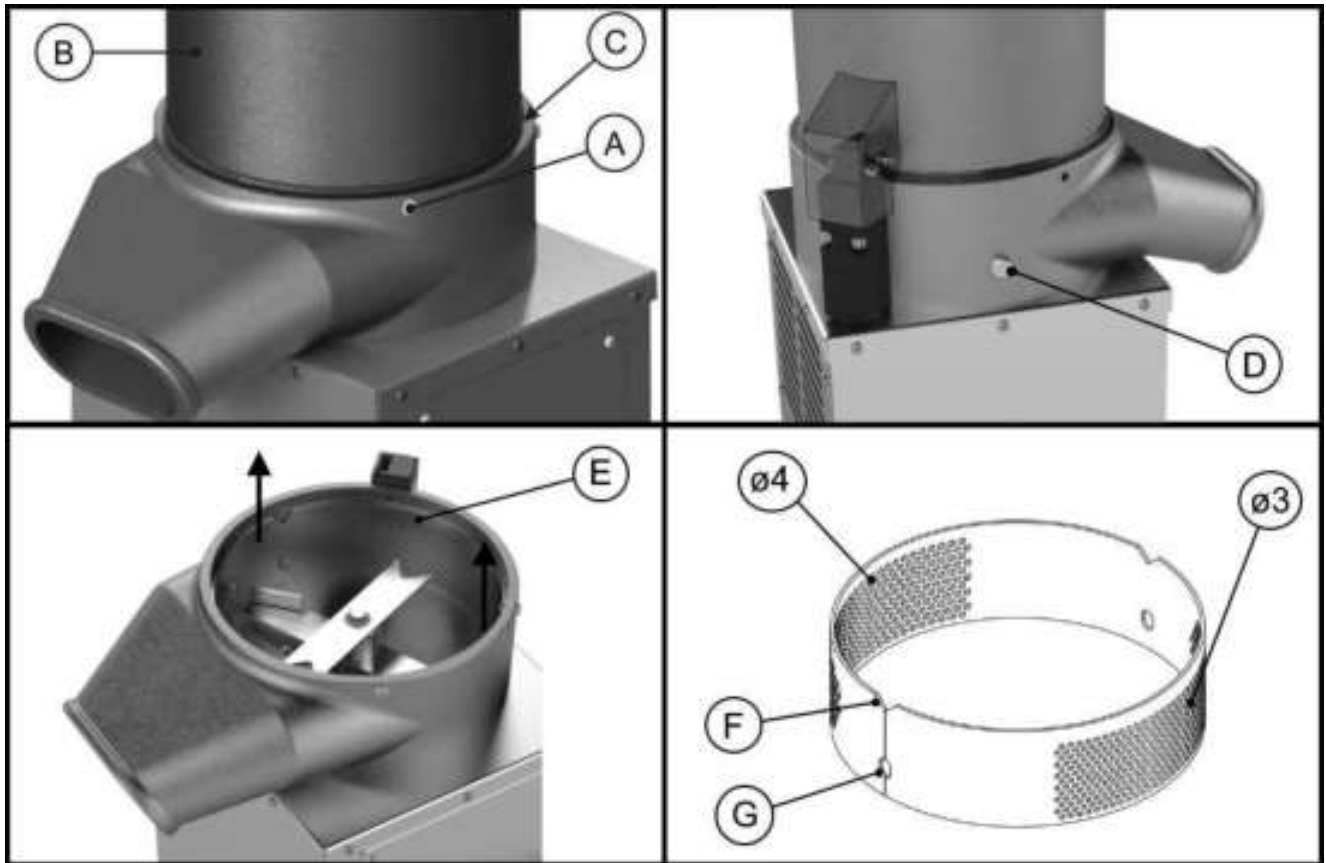

Figure 8
To replace or change the sieve mesh, please follow the instructions below with respect to Figure 8:
For machine commissioning, please follow the instructions below with respect to Figure 8:
- Remove hopper ref. B Figure 8, as illustrated in the previous chapter
- Unscrew the screw that blocks the sieve ref. D Figure 8
- Position hopper ref. A Figure 8 and fasten it as described in the previous chapter